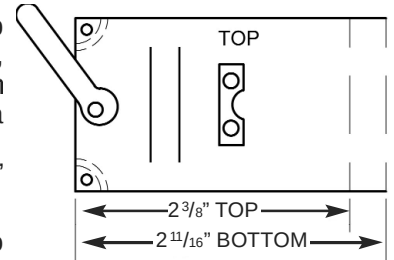

Figure 1
Step 3: With the coil to the right and the track clamp to the left, measure 2-3/8" from the clamp side and cut the top piece at this mark. See figure 1.
Step 4: With the coil to the right and the clamp to the left, measure 2-11/16" from the clamp side and cut the bottom piece at this mark. See figure 1, above right. Refer to the piece that you cut as the *coil piece*.
Step 5: From the clamp side of the bottom piece, measure 2-1/4" along both long sides and make a mark 1/8" from each side. At this mark, drill a 1/8" hole. See Figure 1, right.